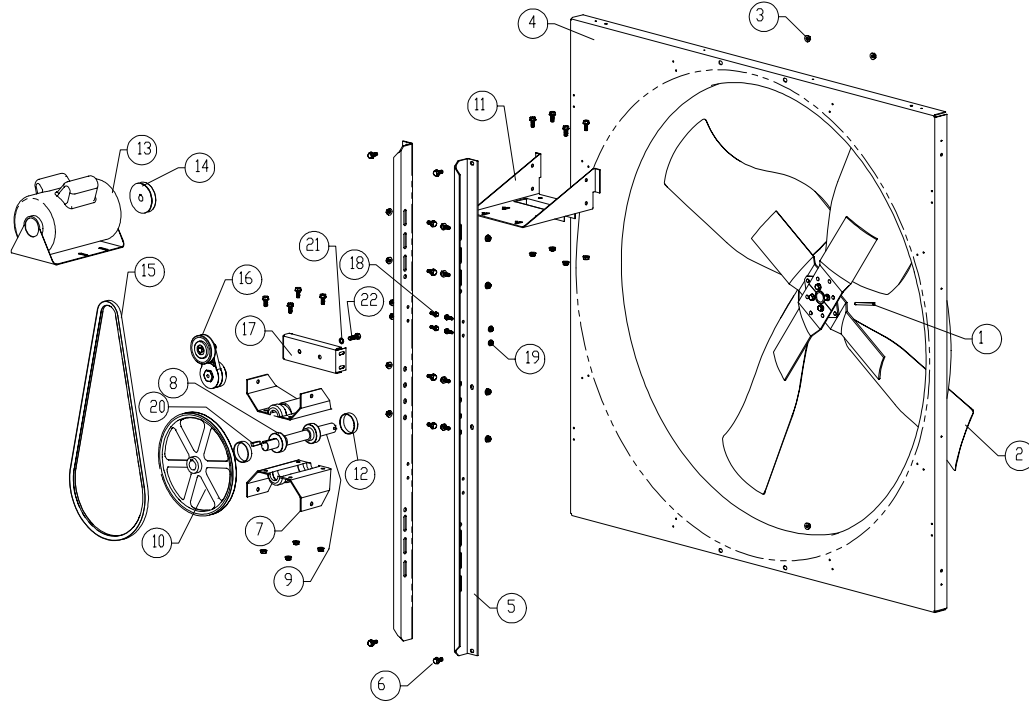

FIGURE 1
1. Unpack the fans and locate all parts as identified in Figure 1.
3. Assemble the shaft and bearing assembly complete with rubber rings and the two bearing bases (# 7) as shown in Figure 1 using the 5/16 inch bolts and nuts provided.
4. Lay the orifice panel on a flat surface with the discharge side down. Attach the support angles (# 5) to the orifice in the relationship shown in Figure 1 using the 5/16 inch bolts and nuts provided. Do not tighten the bolts at this time.
5. Attach the shaft and bearing base assembly to the support angle as shown in Figure 1 using the 5/16 inch bolts and nuts provided. Install the shaft with the end with the 1/4 inch diameter hole towards the discharge of the orifice. The shaft should be perpendicular to the support angle.
6. Attach the motor base to the support angles as shown in Figure 1 with the motor base perpendicular to the support angles.
8. Install the fan sheave (with the supplied bushing if a bushing is required) to the fan shaft as shown in Figure 1 using the 8mm square key. The fan sheave is the larger of the two sheaves provided.
9. Attach the propeller to the shaft using the roll pin (# 1) as shown in Figure 1.
11. Attach the belt tightener base to the support angles as shown in Figure 1 using the ¼ inch bolts and nuts provided. Hand tighten only at this time.
12. Install the motor to the motor base as shown in Figure 1 using the 5/16 inch bolts and nuts provided.
13. Install the motor sheave to the motor as shown in Figure 1 using the square key supplied with the motor.
14. Install the belt as shown in Figure 1 and align the motor sheave and fan sheave using a straight edge to insure alignment.
16. Attach the belt tightener to the belt tightener base as shown in Figures 1, 2, and 3 using the 3/8 inch bolt and lock washer. Hand tighten only at this time.